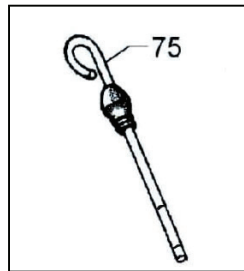

Figure 21
1. Remove the oil dipstick (figure 21, #75) and check the oil level against the graduations etched on the dipstick.